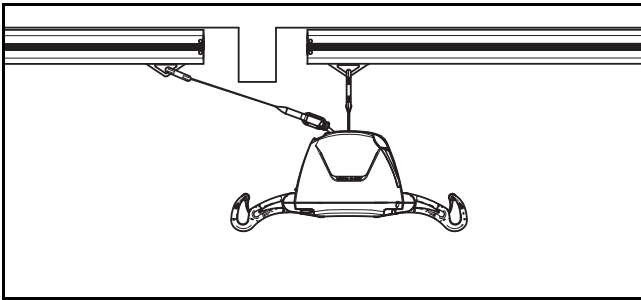

Fig. 19
- 2) Hook the extension strap on the second trolley and then on the pass-through hook (see Fig. 19).